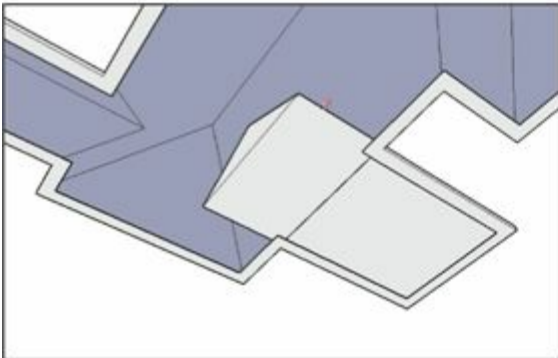

FIGURE 4-39: Here's a typically complex roof that Intersect Faces can unify.
Figure 4-39 shows a complicated roof with several elements. Gabled roofs have been pushed/pulled into the main hip roof at all different heights, but edges don't exist where all the different faces meet. In the steps that follow, use Intersect Faces to create the edges you want and then use the Eraser to clean up the mess:
3. **With the Eraser, *carefully* delete the extra geometry on the inside of your roof, as shown in Figure 4-39.**